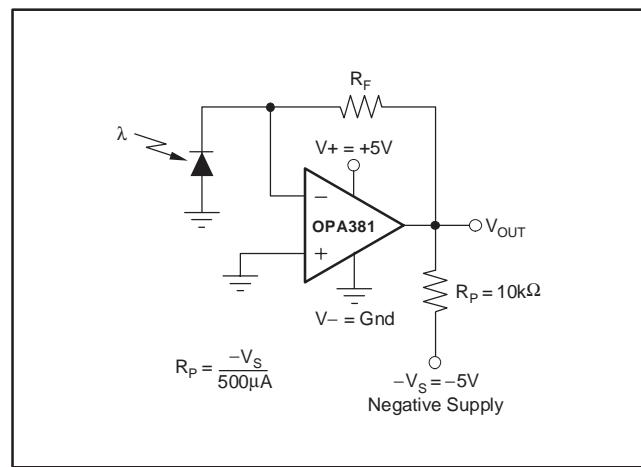

Figure 3. Amplifier with Pull-Down Resistor to Achieve $V_{OUT} = 0$
(1) High temperature operating life characterization of zero-drift op amps applying the techniques used in the OPA381 have repeatedly demonstrated randomly distributed variation approximately equal to measurement repeatability of $1\mu\text{V}$. This consistency gives confidence in the stability and repeatability of these zero-drift techniques.
(2) Tested with output connected only to R_P , a pulldown resistor connected between V_{OUT} and -5V , as shown in Figure 3. See also **Applications** section, *Achieving Output Swing to Negative Rail*.
The OPA381 performance results from an internal auto-zero amplifier combined with a high-speed amplifier. The OPA381 has been designed with circuitry to improve overload recovery and settling time over that achieved by a traditional composite approach. It has been specifically designed and characterized to accommodate circuit options to allow 0V output operation (see Figure 3).
The output of the OPA381 can be made to swing to 0V, or slightly below, on a single-supply power source. This extended output swing requires the use of another resistor and an additional negative power supply. A pulldown resistor may be connected between the output and the negative supply to pull the output down to 0V; see Figure 3.